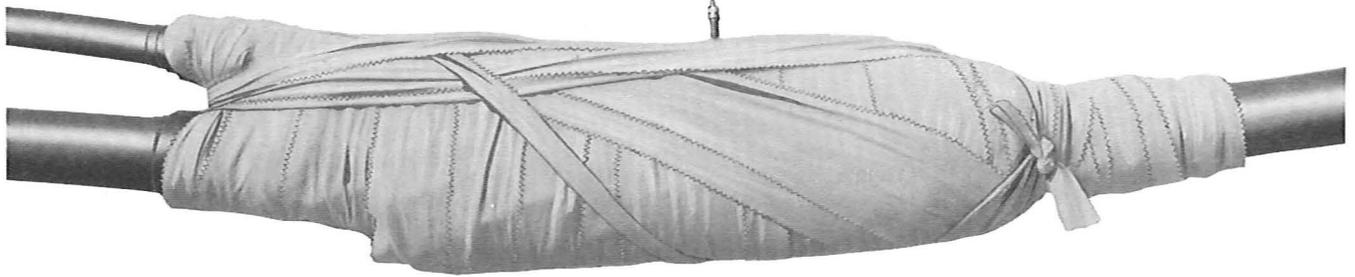

Fig. 10—Reinforcing CR Tape Collar
- 7.04 Secure the finished wrapping by using 4-inch muslin horizontally back and forth across the vertical wrappings. Use a figure 8 turn on the Y end of the splice, as shown in Fig. 10.